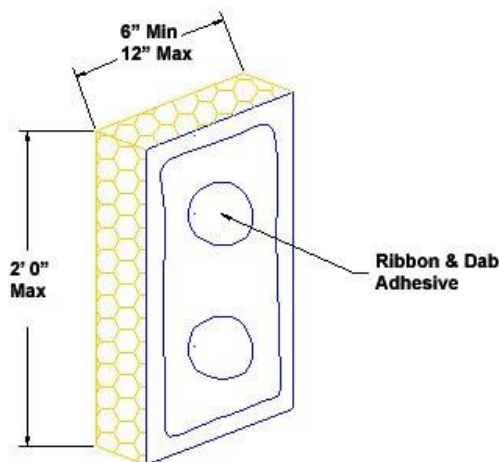

Fig. 13
- c. Apply the adhesive mixture to the back side of the Closure Blocks using a ribbon and dab pattern as shown in Figure 13 and position on the wall.